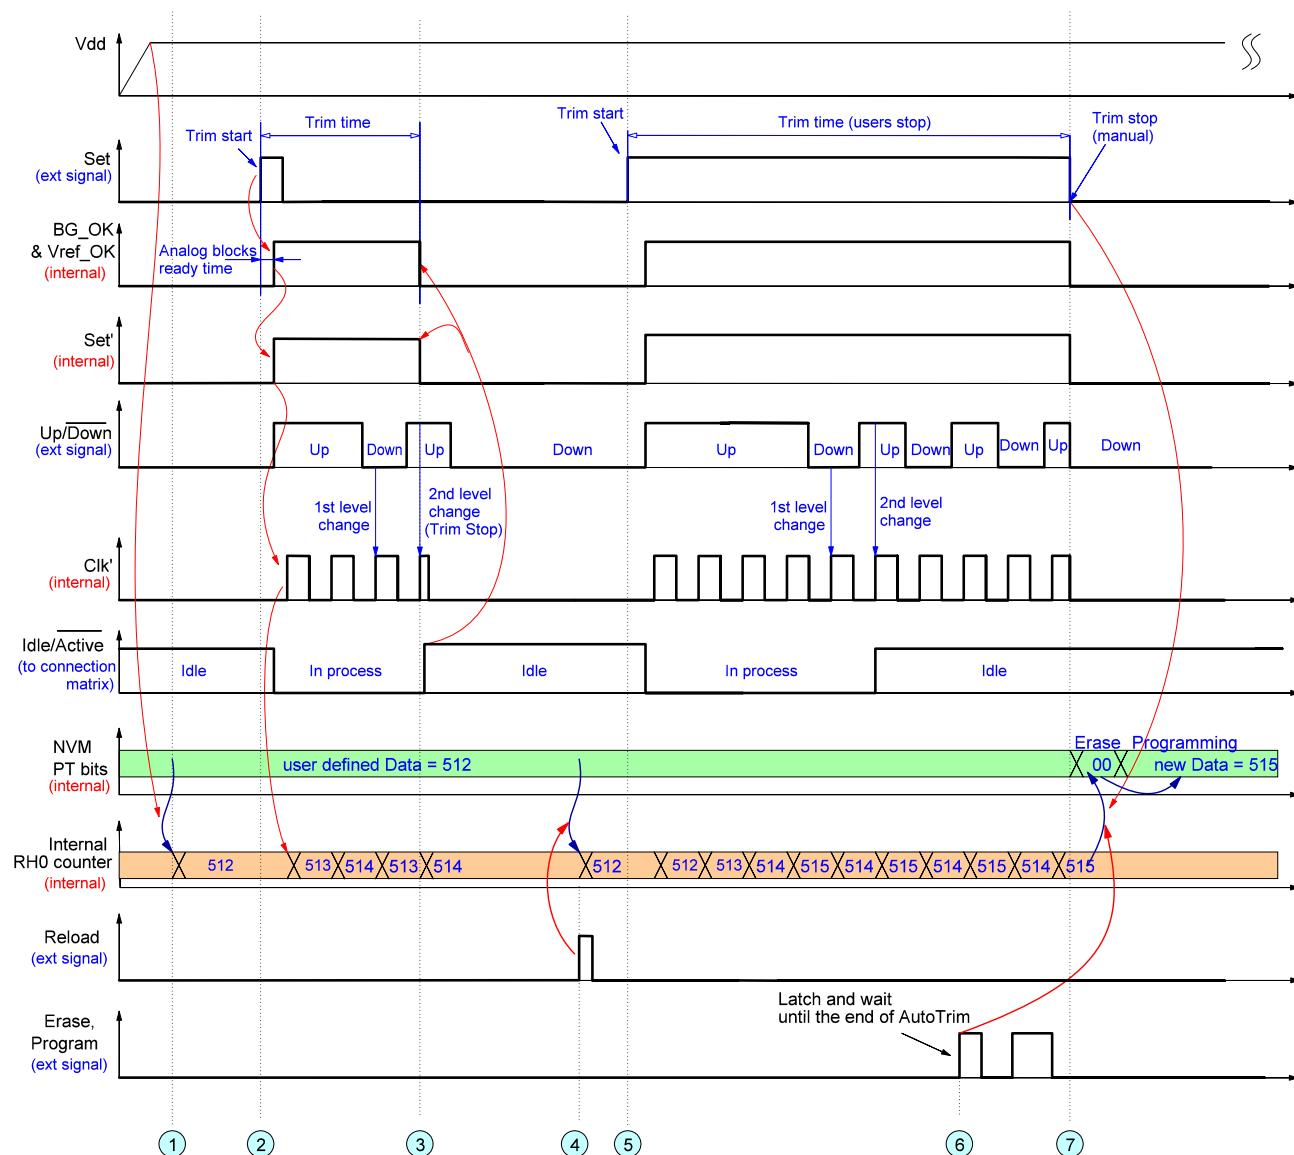
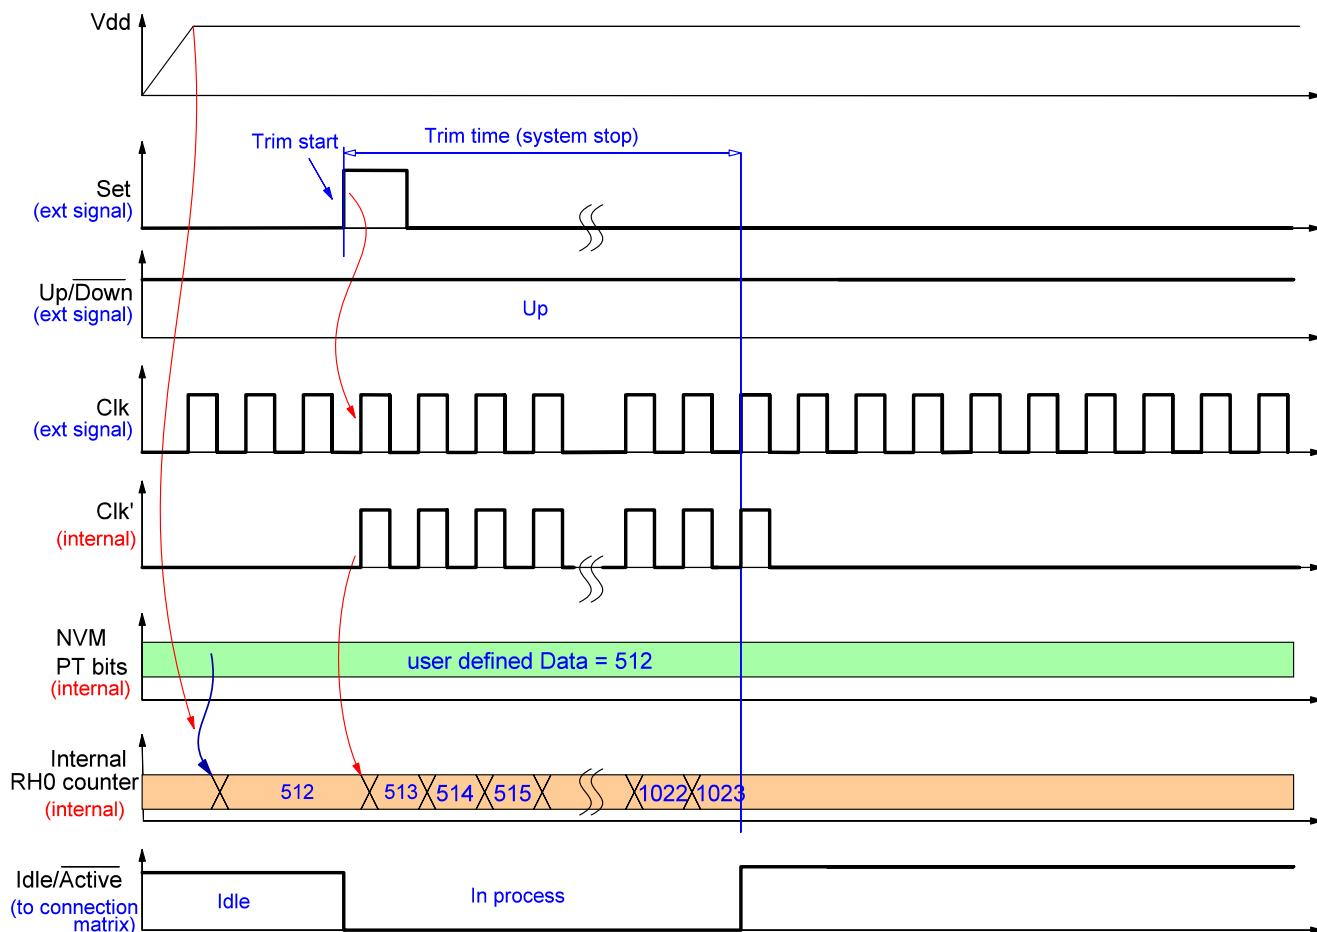

Figure 175: Example of Auto-Trim Process for a Single Rheostat
Figure 176: Example of Auto-Trim Process with External Clock Signal
1) 2nd time change on Up/Down input at the moment of rising edge on Clock input (see Figure 175).
3) the value of rheostat reaches its minimum (0).
The detailed flow of Auto-Trim process is shown in Figure 175, Figure 176, Figure 177.
The key events of the Auto-Trim process are the following (see Figure 175):
If the Set input signal is shorter than the trim time, the Auto-Trim process stops automatically after a stop condition occurs (event 3, Figure 175). However, if a stop condition comes and High logic level holds on the Set input, the rheostat value will be switched near the set point until a Low level on the Set input occurs (event 7, Figure 175). Note that the Idle/Active signal changes its level to High (Auto-Trim is done) even if the user keeps a High logic level at the Set input.
Figure 176 shows a similar Auto-Trim example. The only difference is that the user defined clock source as “External clock” from connection matrix. The clock pulses are present at the Clock input all the time, but have effect (rheostat value changes) during Trim time only. The stop condition for this case is the following: PT block reaches boundary value of 1023 and the logic level at change Set input is Low.